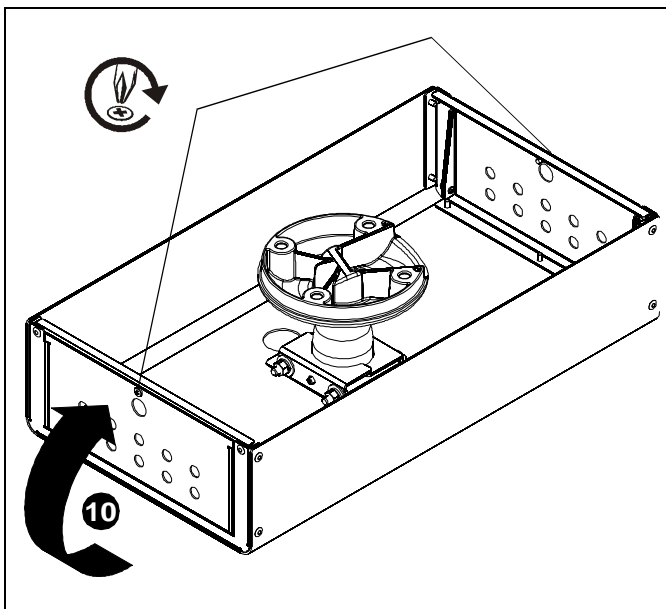

Figure 6
10. Close CMA480 door(s) and secure with screw(s) removed in Step 3. (See Figure 6)